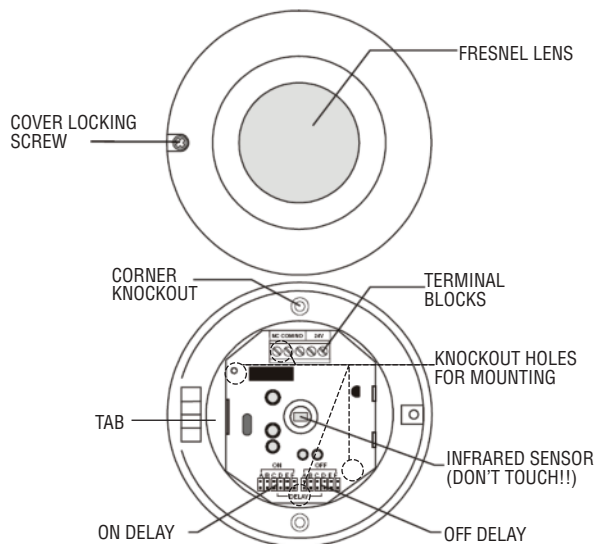

Figure 1b
- Remove the cover screw to open the sensor housing as shown in Figure 1b.
- Remove the circuit board by bending the tab outward (Figure 1b.)
- Screw the base of the sensor housing to the ceiling through the knockout holes (Figure 1b.)